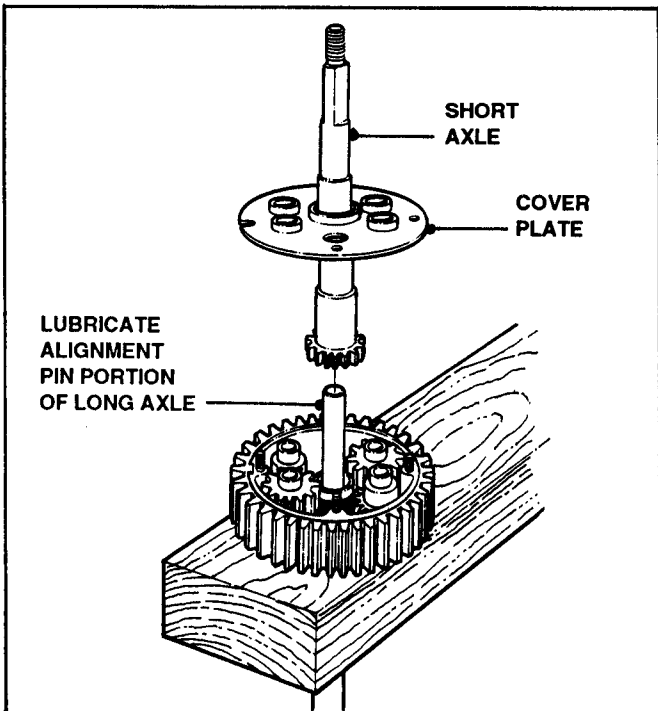

FIGURE 5.12
- Slip Short Axle onto Pin. See Figure 5.12.
- Install remaining Cover Plate. Refer to Figure 5.12.